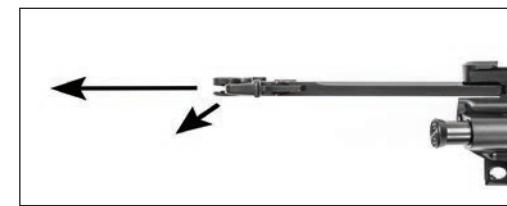

Fig. 18 – Removing the Charging Handle
- Depress the catch on the charging handle and withdraw the bolt assembly from the rear. Continue to pull the charging handle to the rear until resistance is encountered. Pull down on the charging handle and separate the charging handle from the upper receiver (Fig. 18).